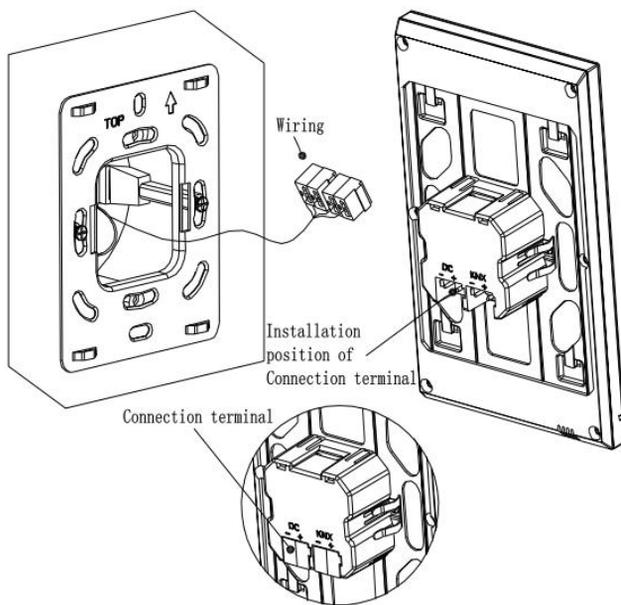

Fig.3.3.2.2
2. Remove the connection terminal on the device and connect it correctly according to the wiring instructions. After wiring, install the terminal to the corresponding position, then the wiring installation is finished, as shown in Fig.3.3.2.2.